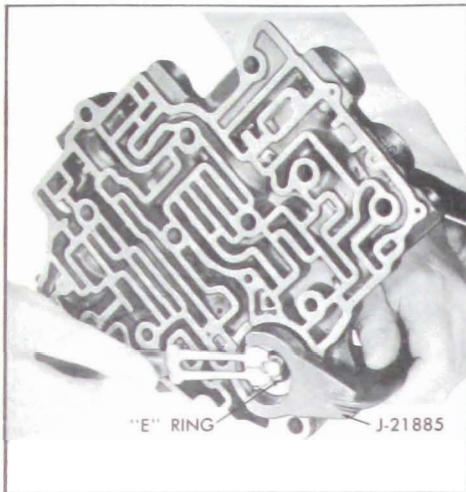

Figure 5-581
2. Install special Tool J-21885, and compress spring and piston and secure with retaining "E" ring. See Figure 5-581.